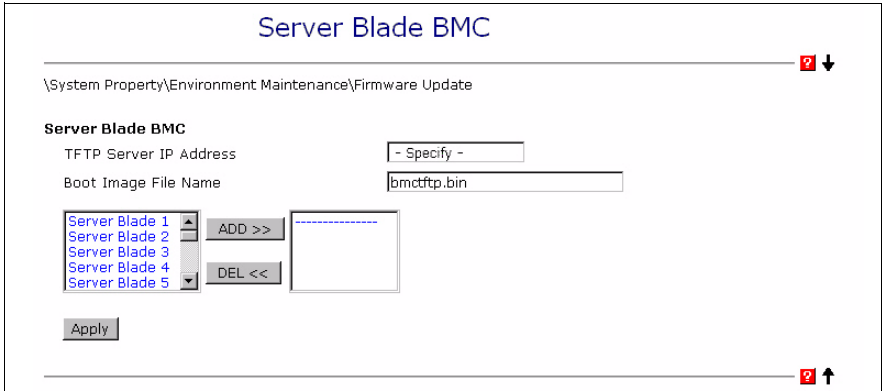

Figure 22: Updating the server blade BMC via the web interface
- Repeat the procedure to update the BMC firmware (see figure 22).